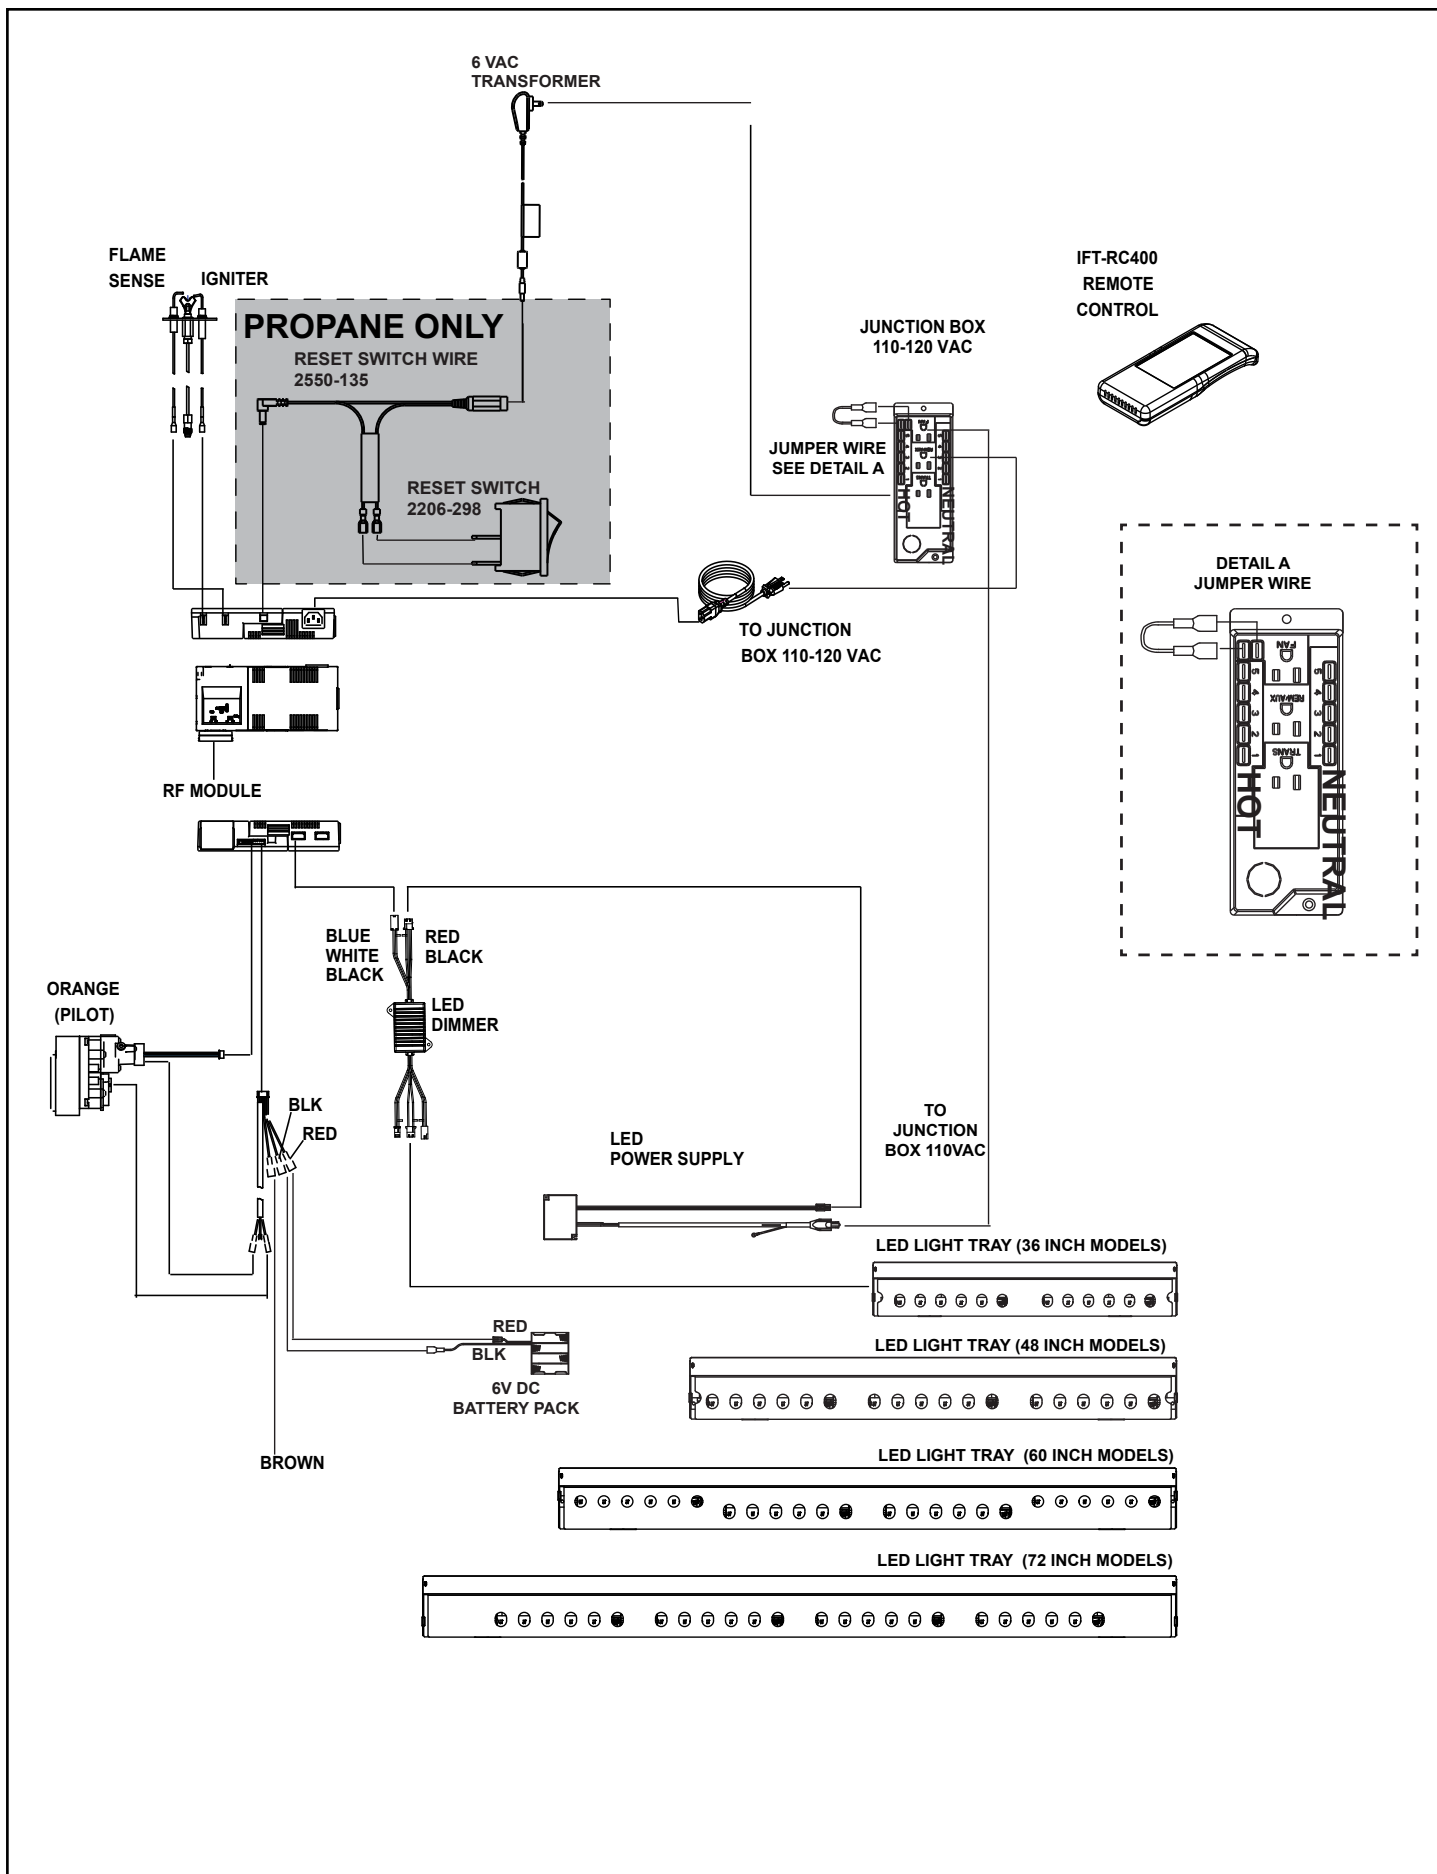

Figure 8.4 IntelliFire Touch Wiring Diagram
- Refer to Figure 8.4 IntelliFire Touch (IPI) Wiring Diagram.
The junction box, control module, LED power supply and wall switch receiver can be accessed by removing the bottom glass shield and component heat shield. The decorative barrier front must be removed to access these components. See Figure 8.4.